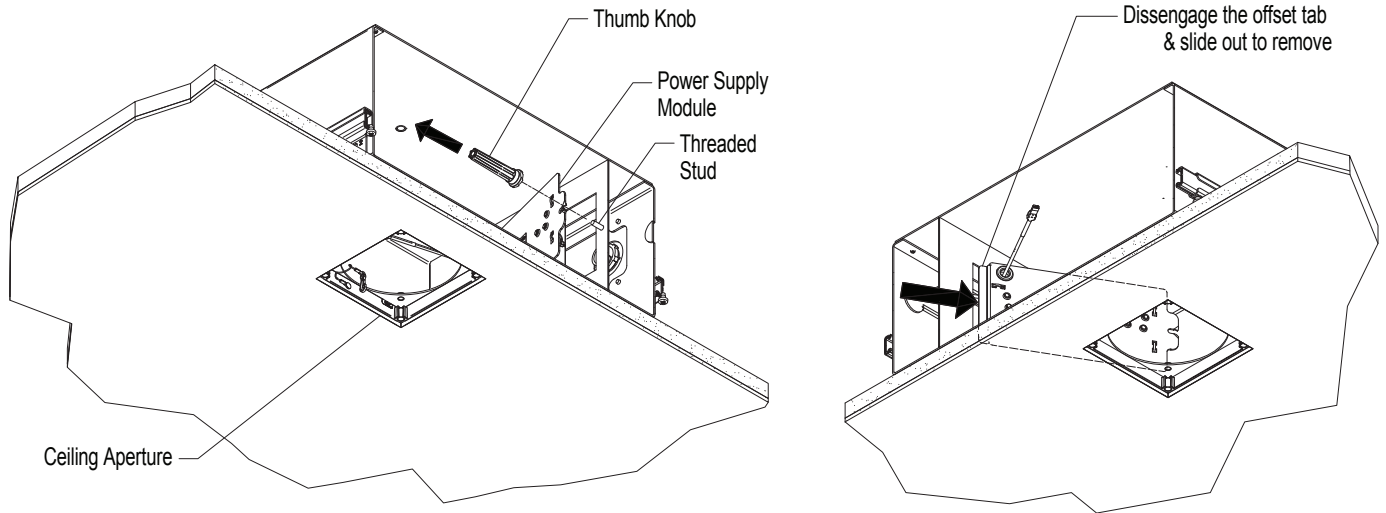

FIG 5.1 Remove Thumb Knob & Disengage Power Supply Module (Model 804 shown)
Step 2 Unscrew & remove Thumb Knob inside Housing as shown. Tilt Power Supply Module to disengage offset tab from housing as shown-FIG 5.1.